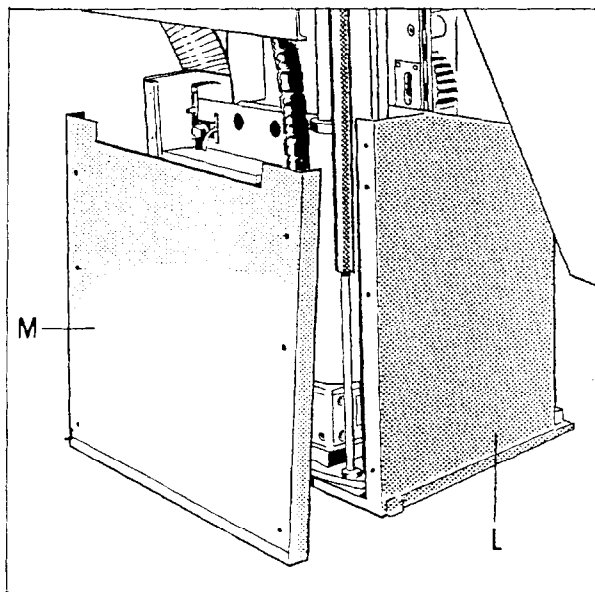

Fig. 11
- Fit the cover plate M to the lifting colum (Fig.11) and fasten it to the lifting column chassis with 6 cover screws.